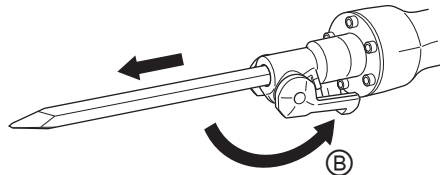

Fig. 6
- (3) Clamp the accessory into place by bringing the retainer to clamp position ㊦. To make sure that the accessory is properly mounted, pull on the accessory. (Fig. 6)